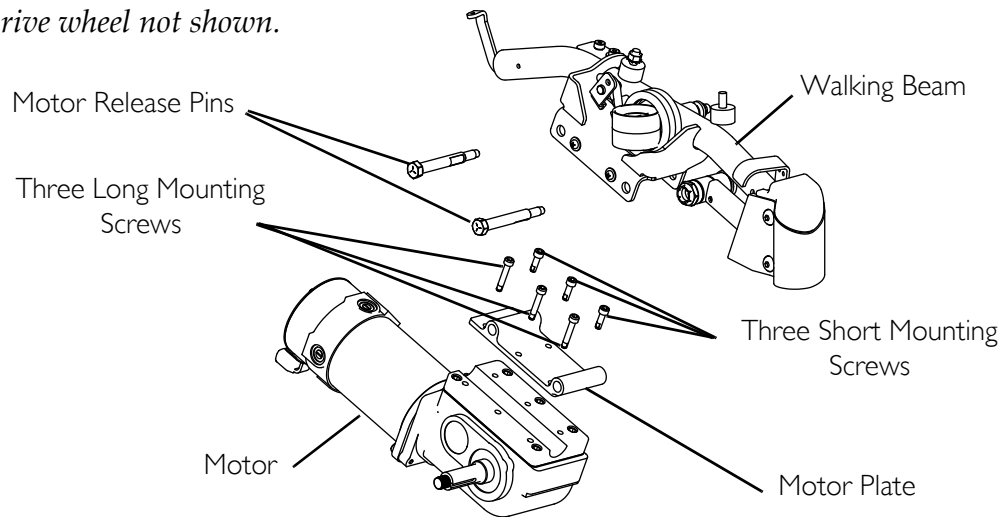

FIGURE 10.2 Removing/Installing the Motor
NOTE: For this procedure, refer to FIGURE 10.2.
5. Remove the three long mounting screws and three short mounting screws securing the motor to the motor plate (FIGURE 10.2).